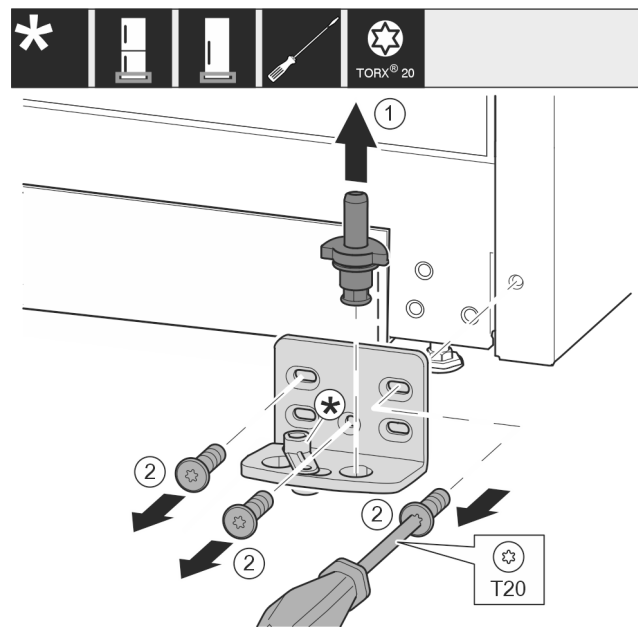

Fig. 12
- Lift the bearing pin completely upward and pull it out. Fig. 12 (1)
- Take out the screws with a T20 screwdriver and take off the bearing bracket. *Fig. 12 (2)*